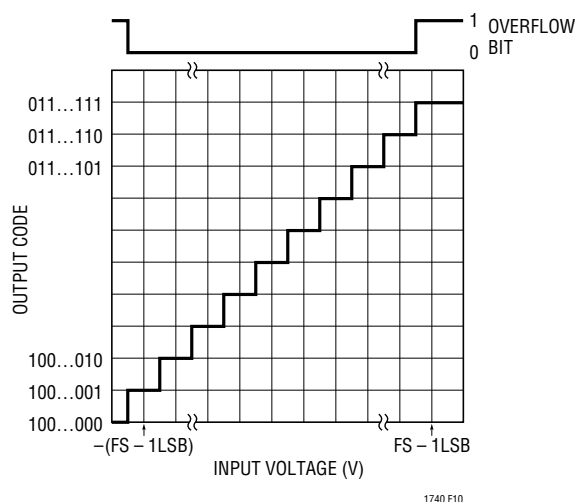

Figure 10. LTC1740 Transfer Characteristics
Figure 10 shows the ideal input/output characteristics for the LTC1740. The output data is two's complement binary for all input ranges and for both single and dual supply operation. One LSB = $V_{REF}/(0.9 \cdot 16384)$. To create a straight binary output, invert the MSB (D13). The overflow bit (OF) indicates when the analog input is outside the input range of the converter. OF is high when the output code is 10 0000 0000 0000 or 01 1111 1111 1111.